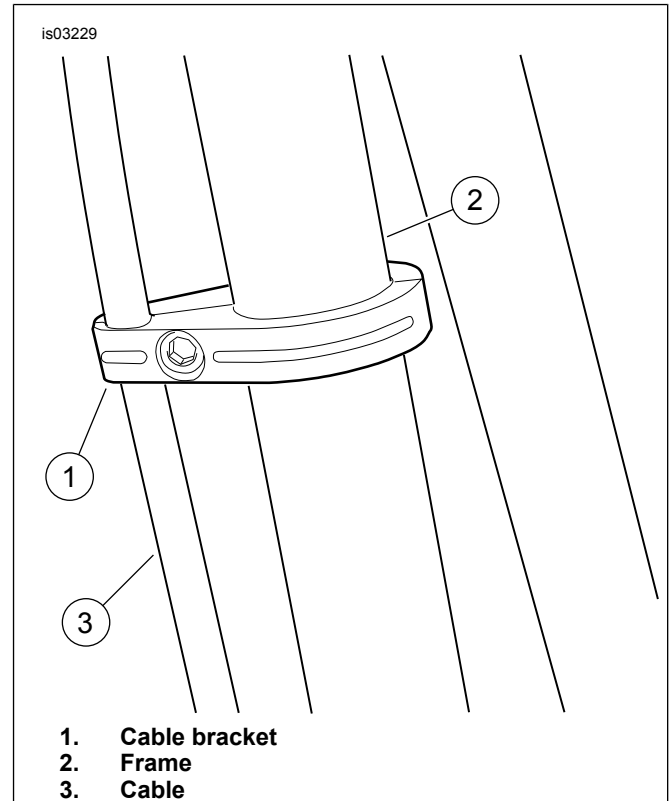

Figure 1. Bracket Installed
2. See Figure 1. Position the two halves of the cable bracket (1) on the frame (2) and cable (3) as shown. Mount the bracket between the clutch-cable boot and the bottom of the frame. Position the clamp so that the cable is to the outside of the frame down tube.